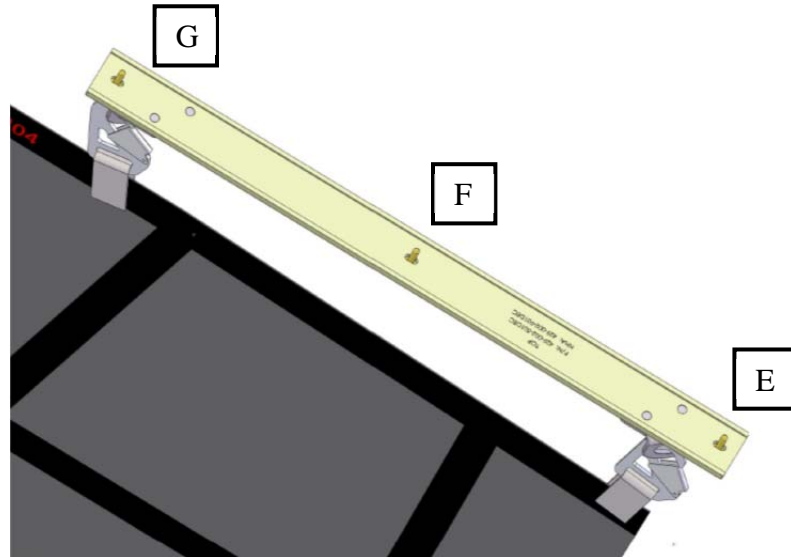

Figure 7.6.1
- 7.6 Continue with the top right hand (**TOP**) bracket assembly. Install the liner screw at location '**G**' through the top slot of the bracket until it is hand tight and will assist in holding the bracket out of the way while the second and third screws at locations '**E**' and '**F**' are installed. Torque all screws to 18-22 in-lbs each. See Figure 7.6.1.